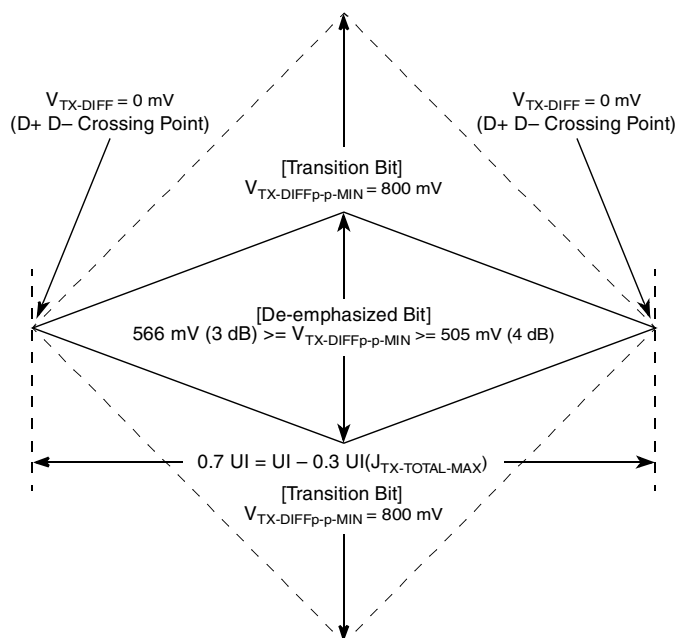
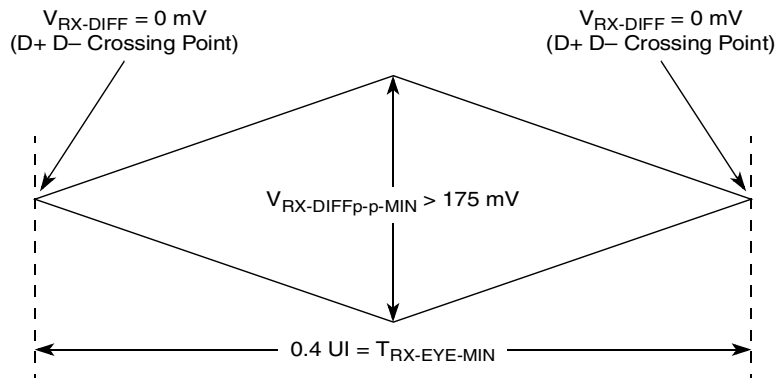
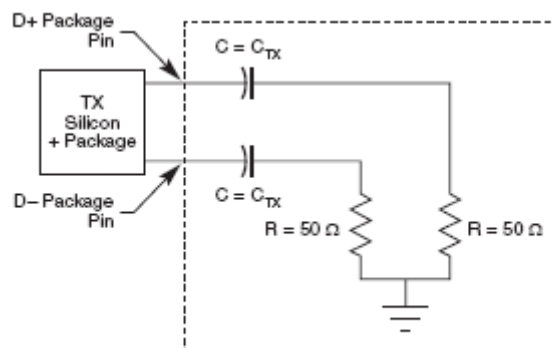

Figure 49. Minimum Transmitter Timing and Voltage Output Compliance Specifications
Figure 50. Minimum Receiver Eye Timing and Voltage Compliance Specification
Figure 51. Compliance Test/Measurement Load
2. Specified at the measurement point into a timing and voltage compliance test load as shown in Figure 51 and measured over any 250 consecutive TX UIs. (Also refer to the transmitter compliance eye diagram shown in Figure 49.)
4. The transmitter input impedance shall result in a differential return loss greater than or equal to 12 dB and a common mode return loss greater than or equal to 6 dB over a frequency range of 50 MHz to 1.25 GHz. This input impedance requirement applies to all valid input levels. The reference impedance for return loss measurements is 50 Ω to ground for both the D+ and D- line (that is, as measured by a vector network analyzer with 50- Ω probes, see Figure 51). Note that the series capacitors, C_{TX} , is optional for the return loss measurement.
5. Measured between 20%–80% at transmitter package pins into a test load as shown in Figure 51 for both $V_{\text{TX-D+}}$ and $V_{\text{TX-D-}}$.
The TX eye diagram in Figure 49 is specified using the passive compliance/test measurement load (see Figure 51) in place of any real PCI Express interconnect + RX component. There are two eye diagrams that must be met for the transmitter. Both diagrams must be aligned in time using the jitter median to locate the center of the eye diagram. The different eye diagrams differ in voltage depending on whether it is a transition bit or a de-emphasized bit. The exact reduced voltage level of the de-emphasized bit is always relative to the transition bit.
2. Specified at the measurement point and measured over any 250 consecutive UIs. The test load in Figure 51 should be used as the RX device when taking measurements (also refer to the receiver compliance eye diagram shown in Figure 50). If the clocks to the RX and TX are not derived from the same reference clock, the TX UI recovered from 3500 consecutive UI must be used as a reference for the eye diagram.
4. The receiver input impedance shall result in a differential return loss greater than or equal to 15 dB with the D+ line biased to 300 mV and the D– line biased to –300 mV and a common mode return loss greater than or equal to 6 dB (no bias required) over a frequency range of 50 MHz to 1.25 GHz. This input impedance requirement applies to all valid input levels. The reference impedance for return loss measurements for is 50 Ω to ground for both the D+ and D– line (that is, as measured by a vector network analyzer with 50- Ω probes, see Figure 51). Note that the series capacitors, C_{TX} , is optional for the return loss measurement.
The RX eye diagram in Figure 50 is specified using the passive compliance/test measurement load (see Figure 51) in place of any real PCI Express RX component. In general, the minimum receiver eye diagram measured with the compliance/test measurement load (see Figure 51) is larger than the minimum receiver eye diagram measured over a range of systems at the input receiver of any real PCI Express component. The degraded eye diagram at the input Receiver is due to traces internal to the package as well as silicon parasitic characteristics which cause the real PCI Express component to vary in impedance from the compliance/test measurement load. The input receiver eye diagram is implementation specific and is not specified. RX component designer should provide additional margin to adequately compensate for the degraded minimum Receiver eye diagram (shown in Figure 50) expected at the input receiver based on an adequate combination of system simulations and the return loss measured looking into the RX package
The reference impedance for return loss measurements is 50. to ground for both the D+ and D- line (that is, as measured by a Vector Network Analyzer with 50. probes—see Figure 51). Note that the series capacitors, $C_{PEACCTX}$, are optional for the return loss measurement.
The AC timing and voltage parameters must be verified at the measurement point, as specified within 0.2 inches of the package pins, into a test/measurement load shown in Figure 51.